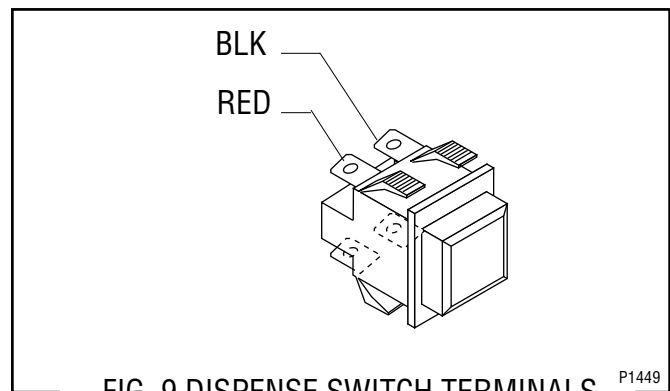

FIG. 9 DISPENSE SWITCH TERMINALS
8. Refer to Fig. 9 when reconnecting wires.